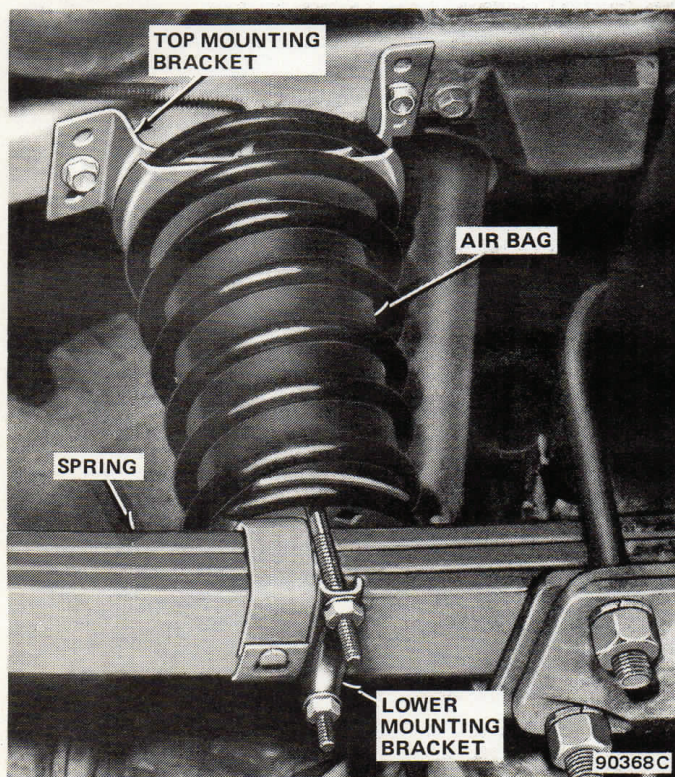

Fig. 8-8 Front Air Overload Spring—Cherokee-Wagoneer-Truck Models
(1) Raise vehicle, remove front wheels and lower axle 2 to 3 inches to allow working space.
(2) Remove spring clamp bar and position air overload assembly so that it straddles vehicle spring approximately 3 inches aft of axle U-bolts. Replace clamp bar and finger-tighten nuts (fig. 8-8).
(3) Raise axle or lower body until air spring bracket contacts frame. With unit vertically aligned and bracket in contact, mark location for 2 mounting holes through center front and aft holes in bracket.
(4) Repeat steps (2) and (3) on opposite side of vehicle. Lower axle and remove air overload springs.
(5) Centerpunch marked hole locations and drill 1/4-inch diameter holes. Remove excessive undercoating.